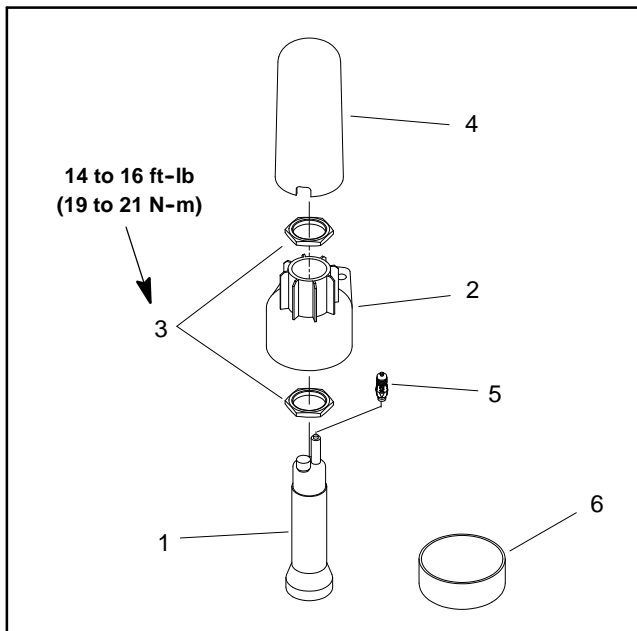

Figure 20
Two (2) identical sonic sensors are used in the Ultra Sonic Boom System. The sensors are mounted to the spray booms (Figs. 20, 21 and 22). During sprayer operation with the sonic boom switch in the automatic position, the sonic sensors will provide inputs for the Toro electronic controller (TEC) to keep the booms at a constant distance from the ground.